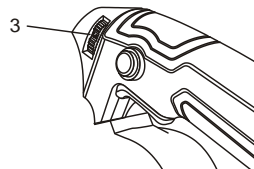

Fig. 4
The speed of the sander can be increased or decreased by rotating the speed control wheel (3) (Fig. 4). Set the speed control wheel at #1 for the slowest speed. Set the speed control wheel at MAX for the fastest speed.